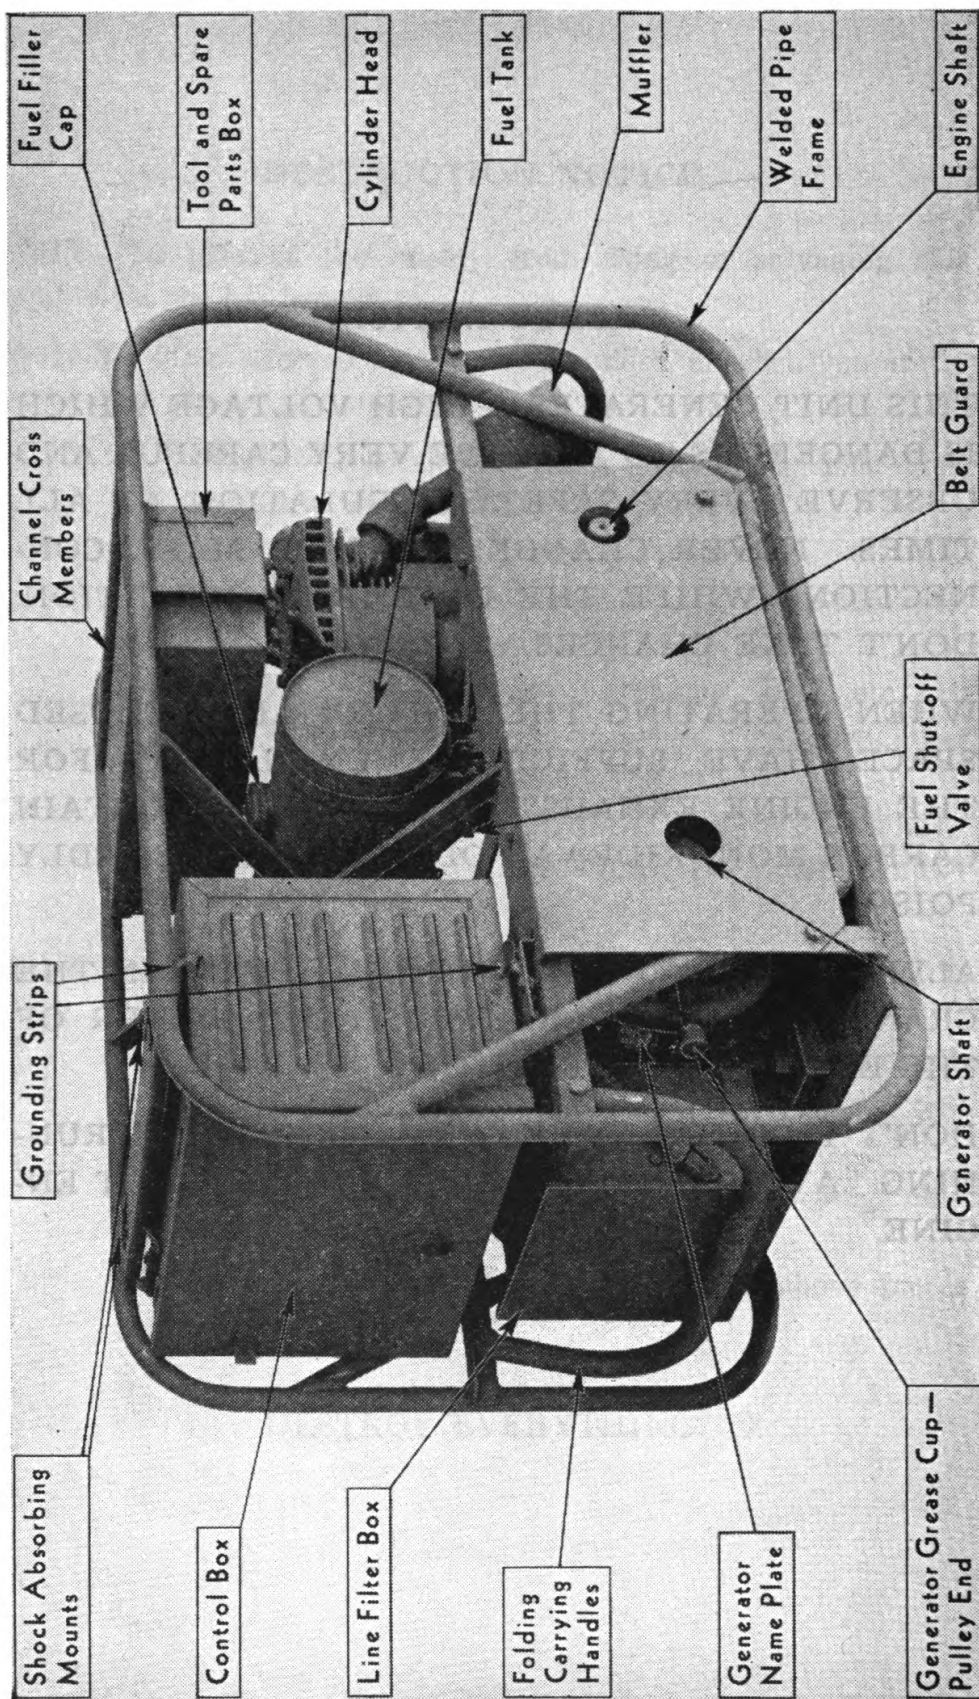
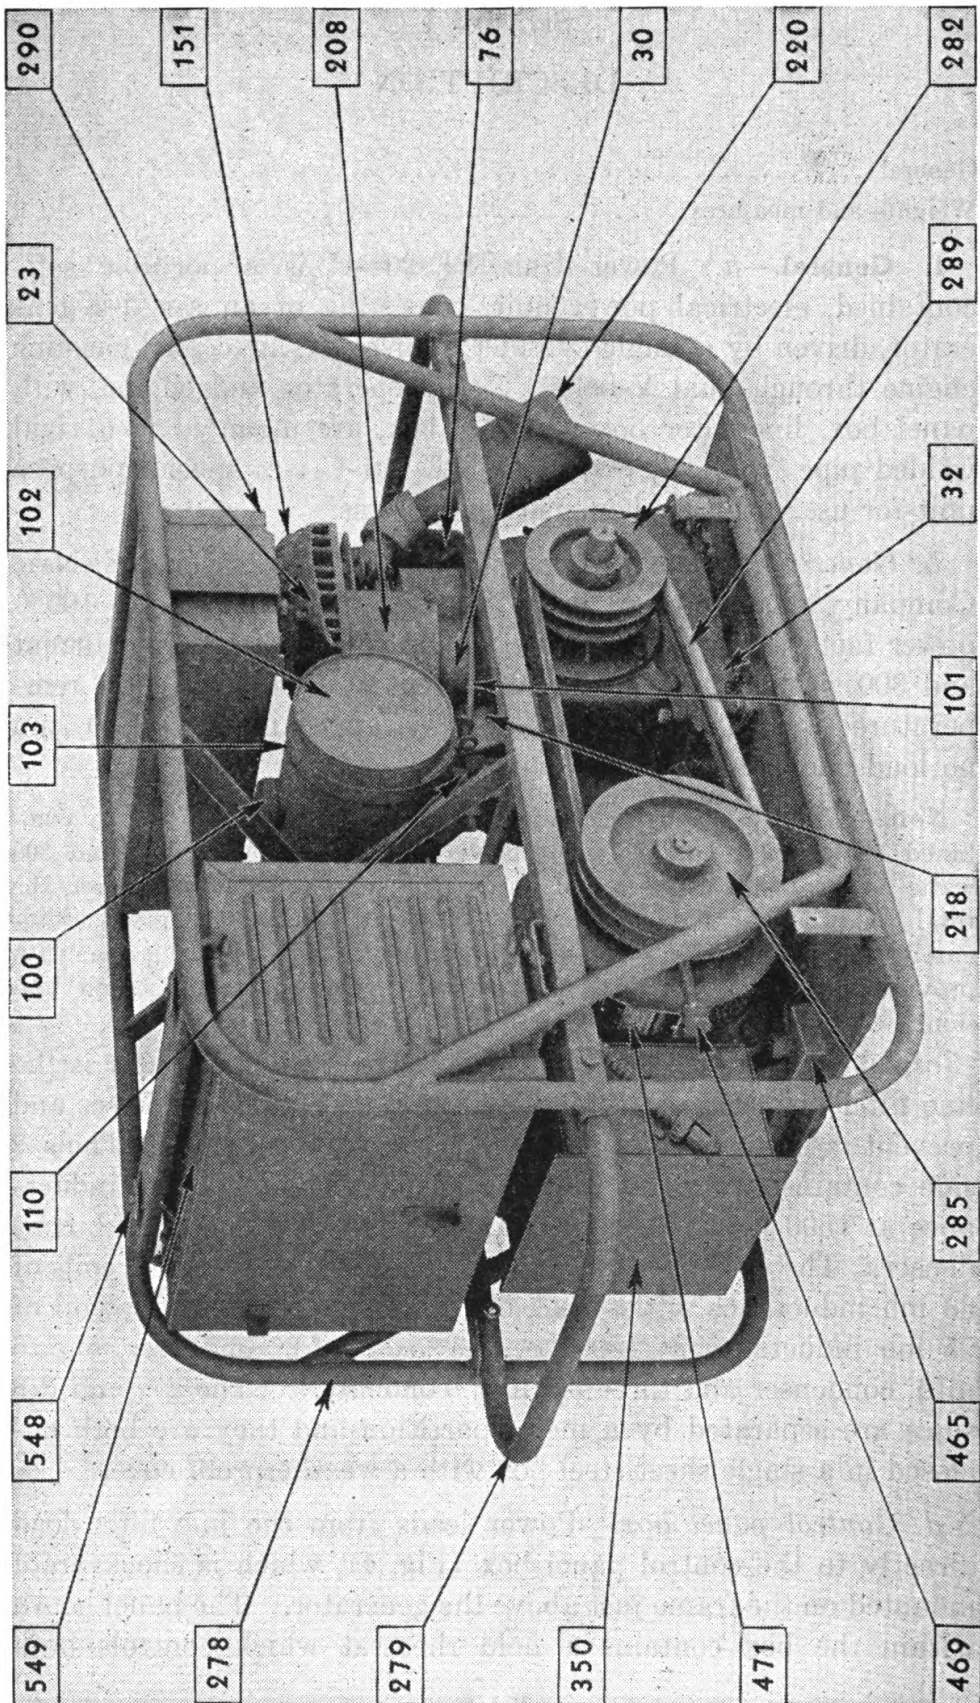
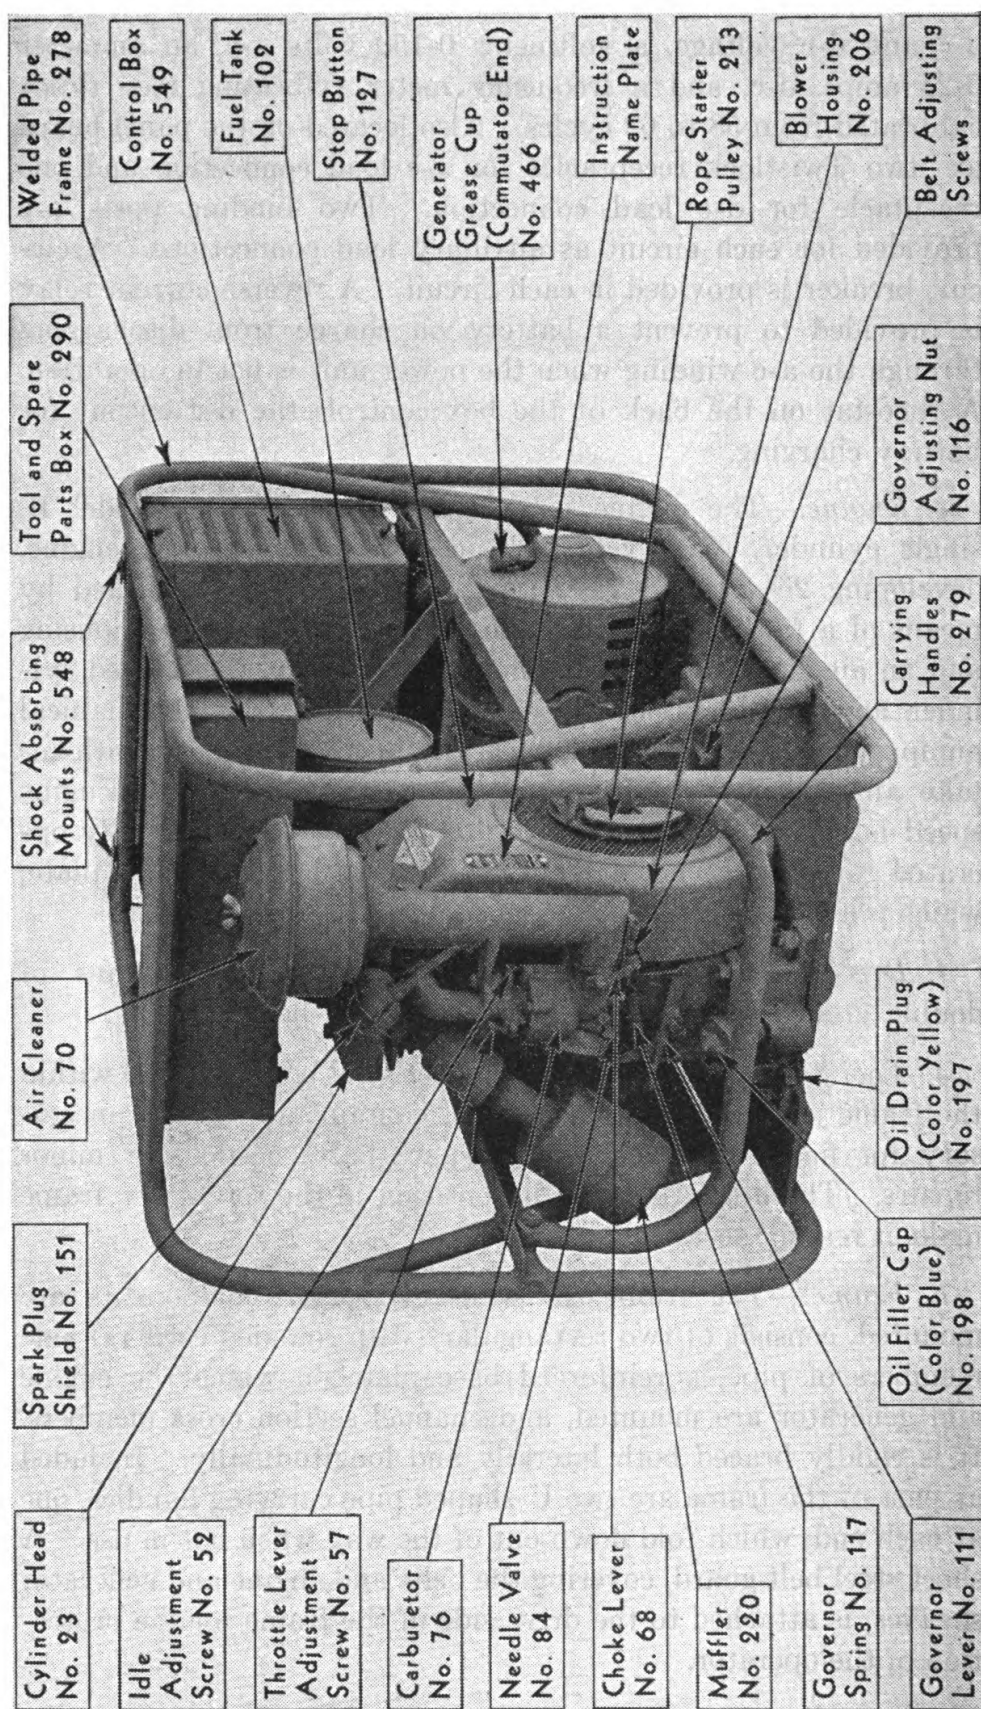
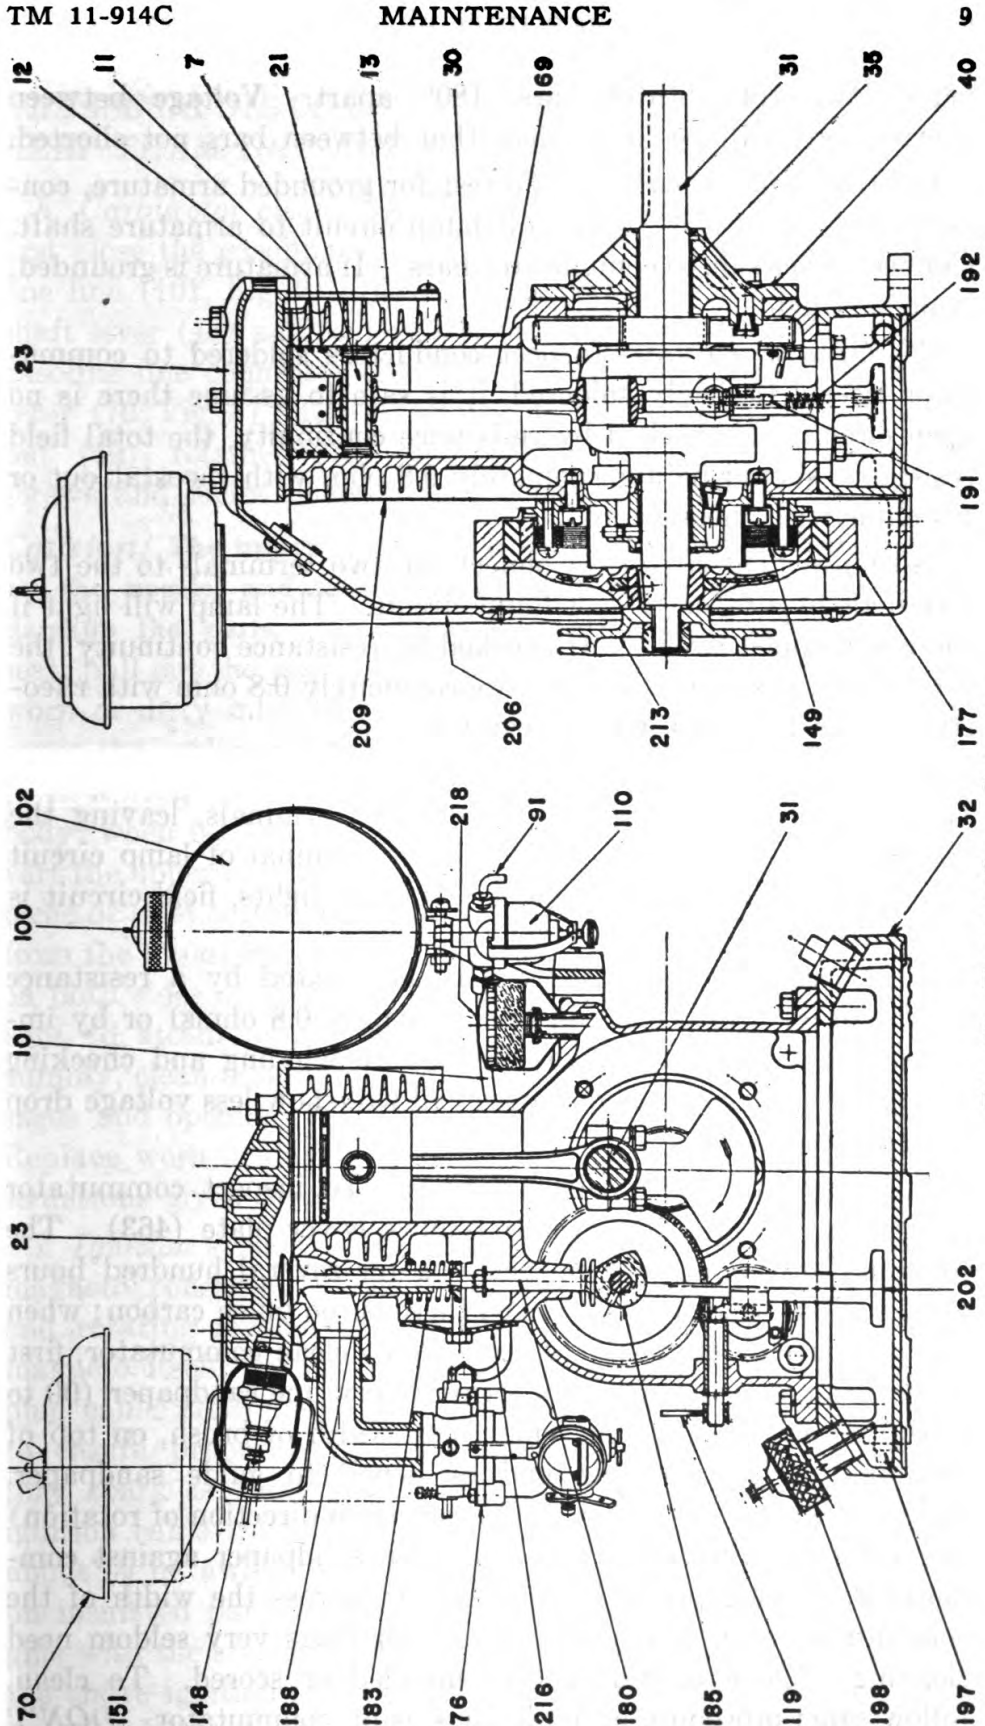

FIG. 1. POWER UNIT PE-201-C, DRIVE SIDE
FIG. 2. POWER UNIT PE-201-C, BELT GUARD REMOVED
FIG. 3. POWER UNIT PE-201-C, MAGNETO SIDE
FIG. 18. ENGINE CROSS-SECTION
4. Preparation for use.—*a.* Remove the fuel tank filler cap (100, Fig. 2), blow through it to make sure the air vent is clear, and fill the fuel tank (102, Fig. 2) with one gallon of clean, fresh gasoline, free from water or dirt. Replace filler cap immediately. Check the gasoline line (101, Fig. 2) and all connections for possible leaks.
b. Remove the oil filler cap (198, Fig. 3) and fill the oil reservoir with 3 pints of lubricating oil in accordance with the following temperature chart:
Replace the oil filler cap (198) immediately. Check oil drain plug (197, Fig. 3) to make sure that it is tightly closed and there is no leakage.
c. Remove the generator grease cups (466, Fig. 3) and (469, Fig. 2) and fill with U. S. Army Specification 2-108 grease. Re-
d. Fill the intake air cleaner (70, Fig. 3) with the same viscosity oil that is used in the crankcase, up to the ridge on the filter element, in accordance with its instruction label.
a. Starting.—Open the gasoline shut-off valve (91, Fig. 18) at the top of the gasoline filter (110, Fig. 18). Close the carburetor choke lever (68, Fig. 3). If the engine is hot this may be unnecessary or it may be only partly closed.
notches of the starter pulley (213, Fig. 3) and wind the rope around the pulley several turns. Crank the engine by a quick steady pull at the starting line. If the engine starts, open the choke slowly until the engine operates smoothly. If the engine fails to start after two or three attempts, open the choke and crank the engine again. Should it refuse to start with the choke open or closed, consult the trouble chart on page 41.
b. Stopping.—Press the stop switch button (127, Fig. 3) on the blower housing (206, Fig. 3) and keep it depressed until the engine stops. If the unit is to be idle for a prolonged period, shut off the fuel supply. Don't press the stop button in this case.
d. Air cleaner.—The air cleaner (70, Fig. 3) protects the engine from dust and dirt. Clean the air cleaner occasionally by washing the outside of the filter element (69) with a rag or brush dipped in Diesel oil. **DON'T SUBMERGE THE FILTER ELEMENT.** Clean the bowl (73) by submerging in Diesel oil. Fill the cleaner up to the level marked on the cleaner bowl with oil of the same grade as used in the crankcase.
f. *Governor.*—The speed of the engine is automatically maintained under varying loads by a centrifugal governor (118), operated from the cam gear. The governor was carefully pre-adjusted to maintain normal speed under load. *Do not readjust unless absolutely necessary.* It can be changed by reducing or increasing the tension of the governor spring (117). Turn the governor adjustment nut (116) clockwise (to the right) to increase engine speed and output frequency; to the left, or counterclockwise, to reduce engine speed and frequency.
h. *Lubrication.*—Add oil to the crankcase after every five hours of engine operation. After every 25 hours of engine operation, the oil must be completely drained by removing the drain plug (197, Fig. 3). Do this while the engine is still warm. After complete drainage, replace the drain plug (197). Never flush the oil reservoir. Remove the oil filler cap (198, Fig. 3) and refill the oil reservoir with 3 pints of oil of the proper viscosity, as indicated by the lubrication chart in paragraph 4b. Replace the oil filler cap (198). Check the generator grease cups (466, Fig. 3) and (469, Fig. 2) every time the engine oil is changed, paragraph 4c.
i. *Fuel system.*—When the engine is used frequently, keep the fuel tank (102, Fig. 2) filled at all times to avoid the formation of gum. If the engine is used only occasionally, drain the fuel tank completely when not in use. Allowing gasoline to evaporate slowly in the fuel tank causes the formation of gum. To clean the gas filter (110), close the shut-off valve (91), open the thumb nut on the filter bowl yoke (108) and remove and clean the glass bowl and screen. Remove the gas line (101, Fig. 2) and blow through it to make sure that it is not clogged. Reassemble the gasoline filter (110), reconnect the gas line (101), open the shut-off valve (91) and check for leakage. If there is the slightest leakage at the filter bowl, replace the filter bowl gasket (98).
j. *Spark plug.*—Clean the spark plug (148) after each 100 hours of operation, and reset the points to .025 in. with the combination gauge and tool (602) supplied in the tool box (Fig. 1). See that the porcelain on the spark plug is not cracked or broken. If the spark plug is damaged in any way, replace with a new one. The spark plug should be kept dry during operation, as water may permit leakage of the high voltage current over the surface of the porcelain. To clean the spark plug, scrape or sandpaper the points and wash the deposits from the points with cleaning solvent P-S-661A. Check the gap after cleaning, as the points have a tendency to burn off during use. Put a little cup grease on the threads before replacing in the cylinder head. Be careful not to get any grease on the points. Replace ignition cable and replace spark plug shield (151, Fig. 3). Failure to replace the shield will cause serious radio interference.
k. Carburetor adjustment.—To adjust the carburetor (76, Fig. 3) completely close needle valve (84, Fig. 3) by turning it to the right, or clockwise, as far as possible. Do not screw up too tight or use force when closing needle valve, as valve and seat will be damaged. From closed position, open the needle valve one to one and one-quarter turns. After the motor has been started and warmed up, make final adjustment, with choke (68,
Fig. 3) wide open, by turning the needle valve (84, Fig. 3) to the point at which the engine runs most smoothly under full load. This setting will also take care of starting a cold engine when using the choke. When starting a cold engine, if it is necessary to keep the choke (68) partially closed for several minutes before the engine runs smoothly, the carburetor mixture is too lean, and the needle valve (84) should be turned a little to the left, or counter-clockwise. The idler adjustment screw (52, Fig. 3) setting is done in the same manner. Turn down the screw to the right or clockwise until it is closed, but do not force